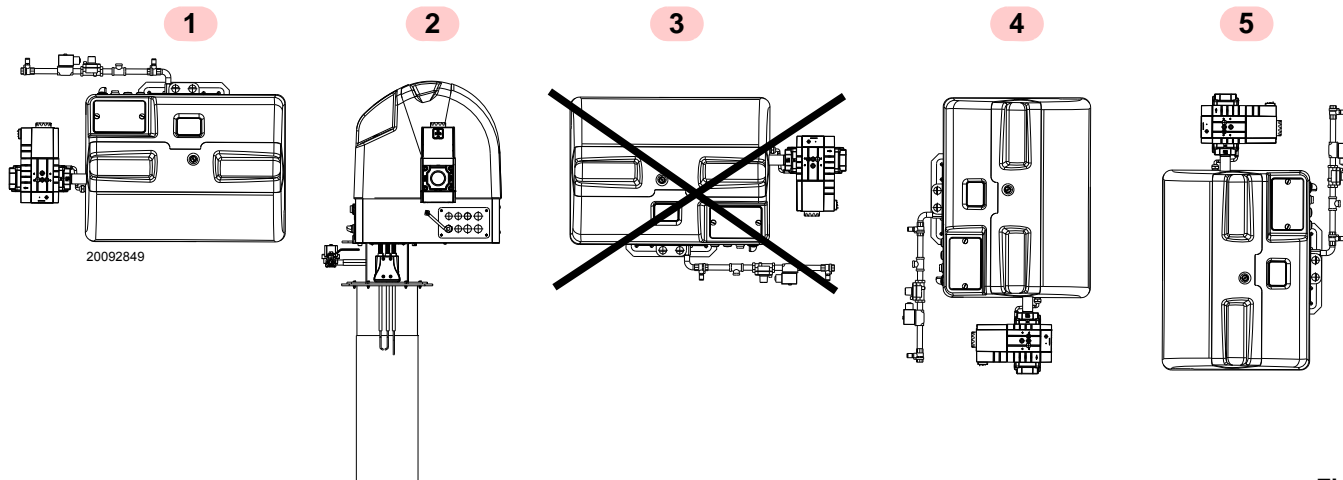

Fig. 14
- The burner is designed to operate only in positions 1, 2, 4 and 5 (Fig. 14).